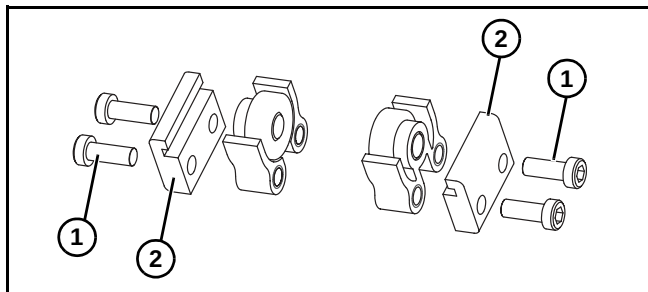

Figure 11
1. Locate return rollers. Exploded views shown in **Figure 11**.
2. Remove screws (**Figure 11, item 1**) and clips (**Figure 11, item 2**) from roller assembly.